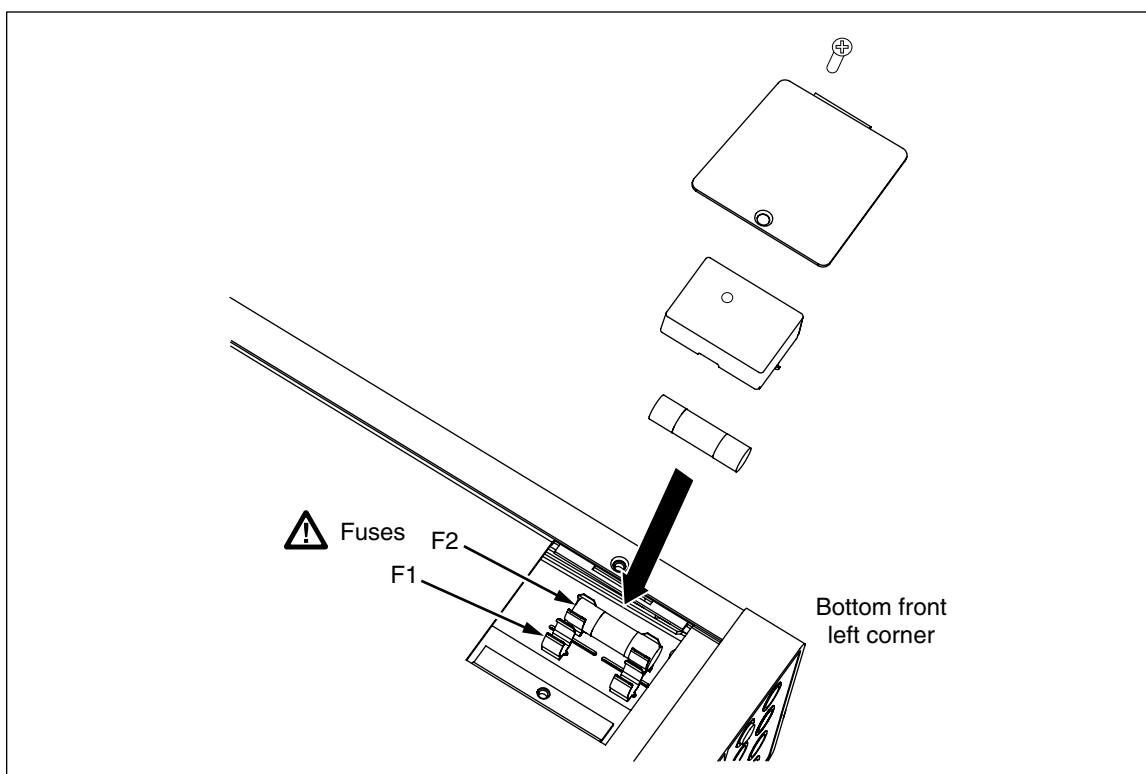

Figure 2. Replacing the Current-Input Fuses
3. Remove the retaining screw on the fuse access door. See Figure 2.